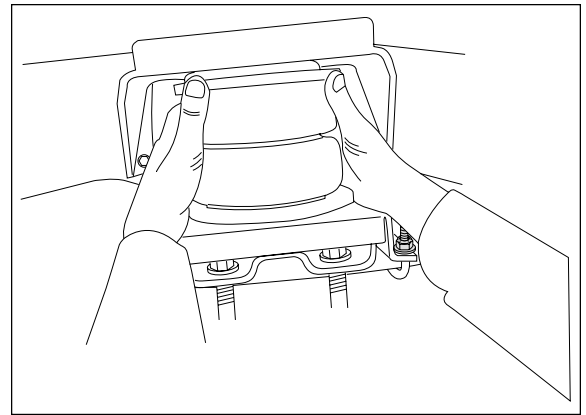

Figure 6
1. With the air spring still loose in the lower brackets, align the air spring, inboard and outboard, using the slotted holes in the bracket so that it is uniformly positioned between the brackets (Figure 6).